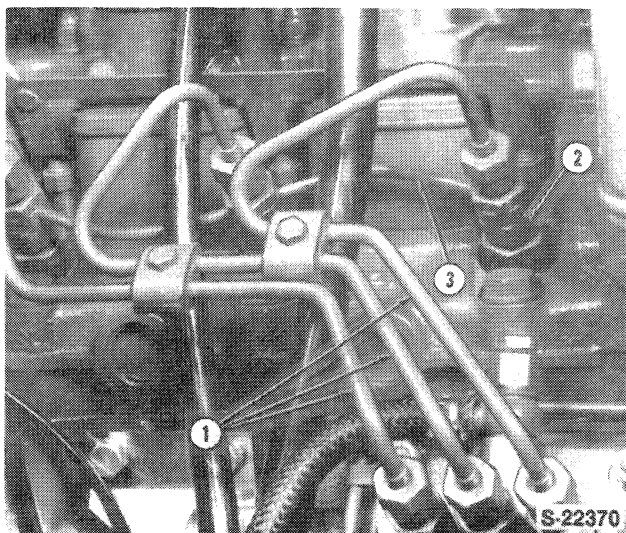

Figure 4
- 5. Remove the injection lines and cap all openings, Figure 4.
- 6. Remove the injector leak-off line (3), Figure 4.
- 7. Remove the injector assemblies, Figure 4.